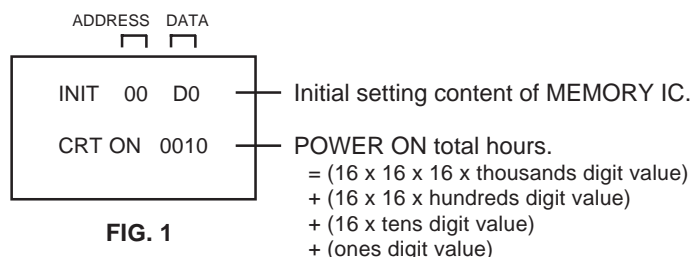

FIG. 1
2. While holding down VOLUME button on front cabinet, press key **(6)** on remote control for more than 2 seconds. ADDRESS and DATA should appear as FIG 1.